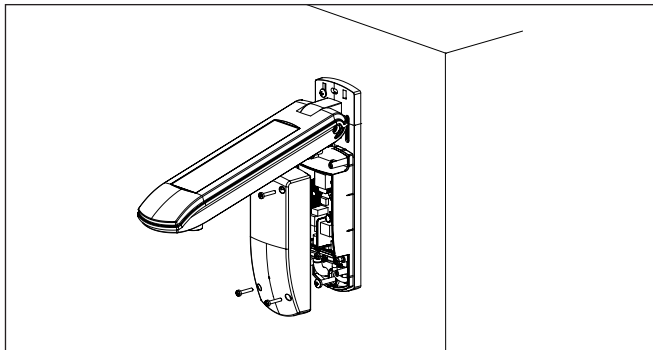

Fig. 4 Wall installation
- Attach the weather station to a suitable substructure using the included screws and dowels as shown (Fig. 4). The connecting cable must be correctly positioned in the guide on the back of the mounting plate to ensure it is not pinched during installation.